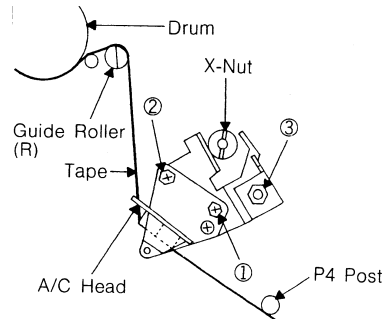
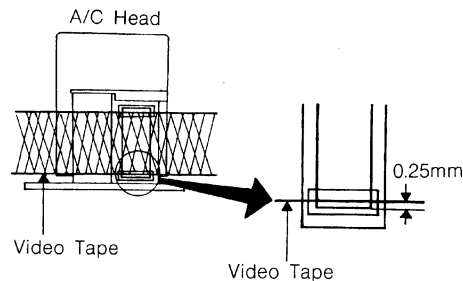

Fig. 2-2
Fig. 2-3
- If the tape still does not run smoothly, turn the screw (1) and adjust the tilt of the A/C head. (Refer to Fig. 2-2)
- Turn the screw (2) slowly to change the azimuth of the A/C head. Adjust the azimuth so that the audio output becomes maximum. (Refer to Fig. 2-2)
- Adjust the nut (3), (Refer to Fig. 2-2) until the height of the A/C head reaches the position against the tape as shown in Fig. 2-3.
- Adjust the height of reel disk. (Refer to item 1-1)
- Confirm and adjust tension post position. (Refer to item 1-2)
- Adjust the guide roller. (Refer to item 2-1)
- Adjust the A/C head tilt. (Refer to item 2-2)
- Adjust the A/C head height and azimuth. (Refer to item 2-3)
- Connect CH-1 on the oscilloscope to TP4005 and CH-2 to TP2001. Insert the VHS alignment tape (J0001E) into the unit. Set the tracking control to the center position. (Refer to item 2-1, NO. 3). Turn the X-nut using the X-nut adjustment screwdriver 2 (JG021A) (Refer to Fig. 2-2). Adjust the X-nut for the envelope to be maximum. (Refer to Fig. 2-1-A)